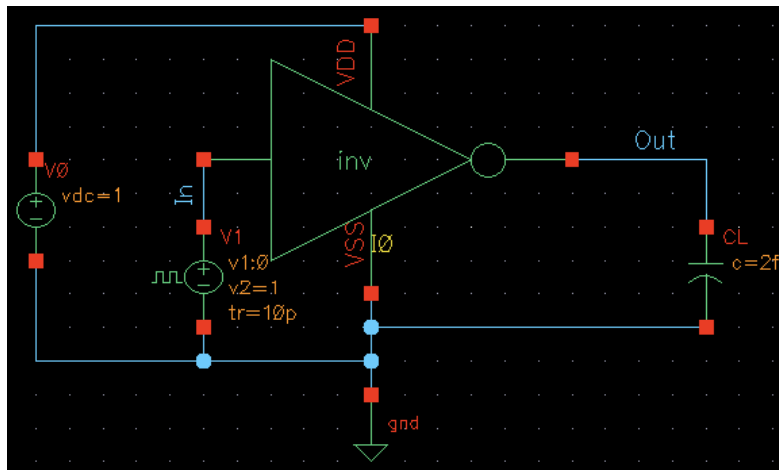
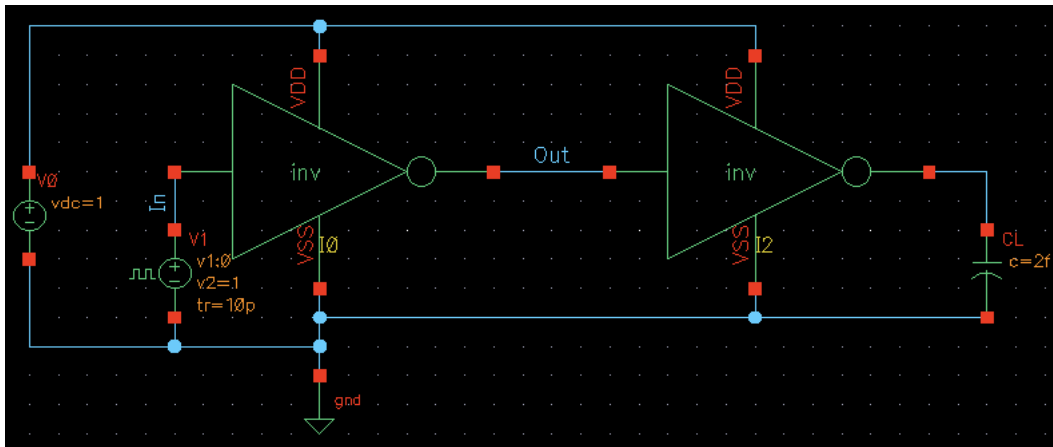

Figure 1 Simulation Schematic to Extract Inverter Resistance and Output Capacitance.
Figure 2 Simulation Schematic to Extract Inverter Input Capacitance.
1. Use the unit size inverter from homework #1 and construct a simulation schematic as shown in Fig. 1 below. V_{DD} is 1V. Specify the pulsating input source same as in homework #1 (500MHz, 10ps rise/fall time, $V_1=0V$ and $V_2=1V$). Simulate the propagation delay in two loading cases: $C_L=2fF$ and $C_L=4fF$. (8 pts)
3. To estimate input capacitance of the inverter, replace the load capacitor in Fig. 1 with another unit-size inverter. Remember to load the additional inverter with a 2fF capacitor (Fig. 2). Simulate the propagation delay of the original inverter and estimate its input capacitance (C_g). (8 pts)